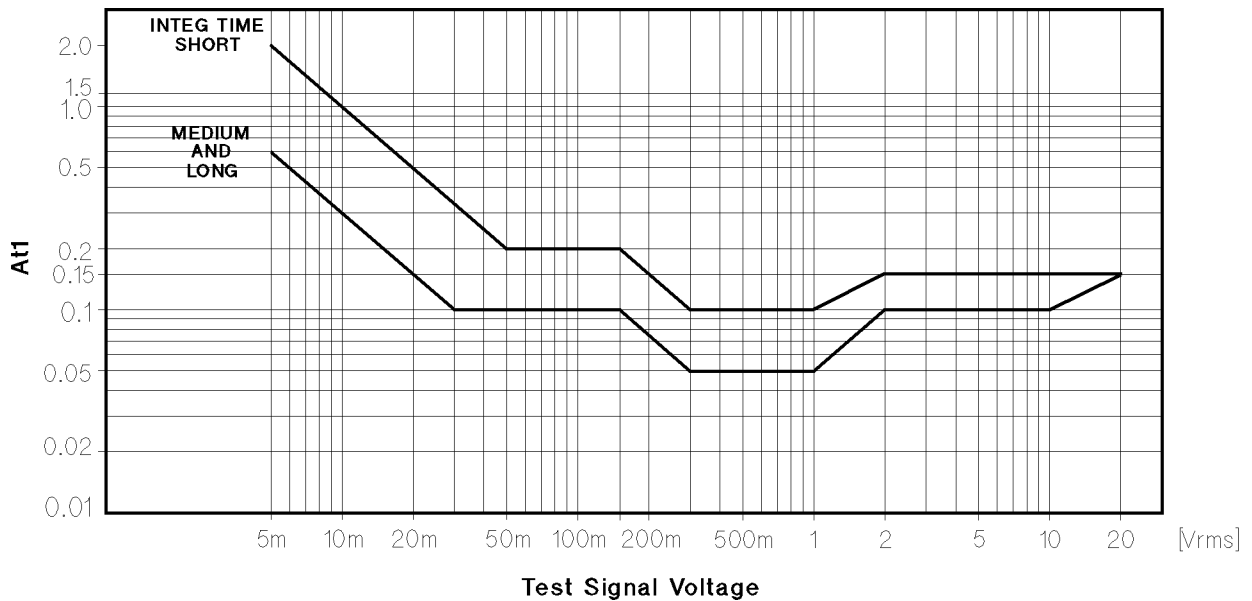

Figure 9-5. Basic Accuracy A (2 of 2)
- A₁— A value when $V_s < 0.3 V_{rms}$ or $V_s > 1 V_{rms}$. To find the value of A₁, A₂, A₃ and A₄ refer to Figure 9-5.